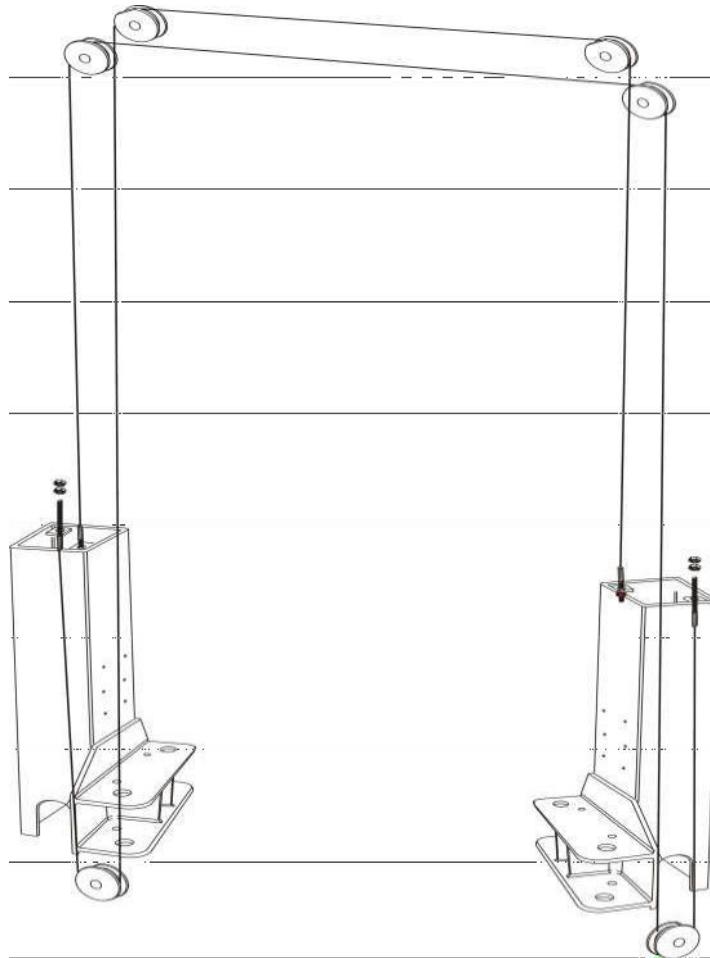

Fig.13a
- Raise the two carriages to the safety locking position; make sure the two carriages are of the same height from ground. For TCE-245LD models, route the steel cables as Fig. 13a